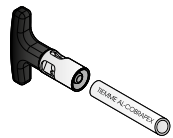

FIG. 2
- Then, trim and calibrate the tube by using the tool indicated in fig. 2. Insert the gauge into the pipe, then alternately turn it in a clockwise and in a counter-clockwise direction.